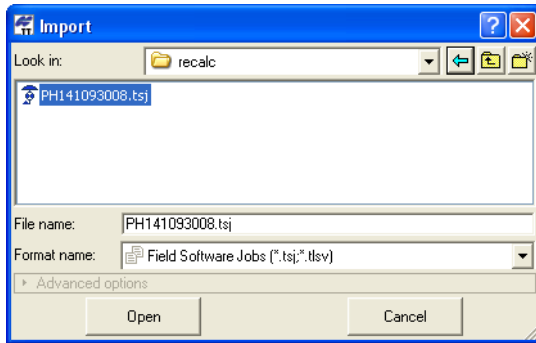

Figure 3-23. Import TopSURV PC Job
1. To import a Field Software job on a computer into Topcon Tools, with a job open, either click **Job ► Import**, press **F3**, or click the **Import** button on the Toolbar (Figure 3-23 on page 3-29).
4. Click **Open** to import the file (Figure 3-23 on page 3-29).